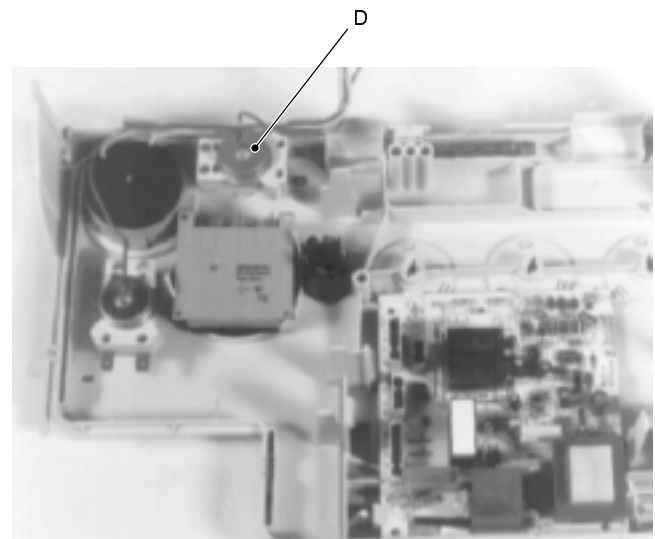

fig. 90
- the switch *D* which is placed on the instrument panel (fig. 90).